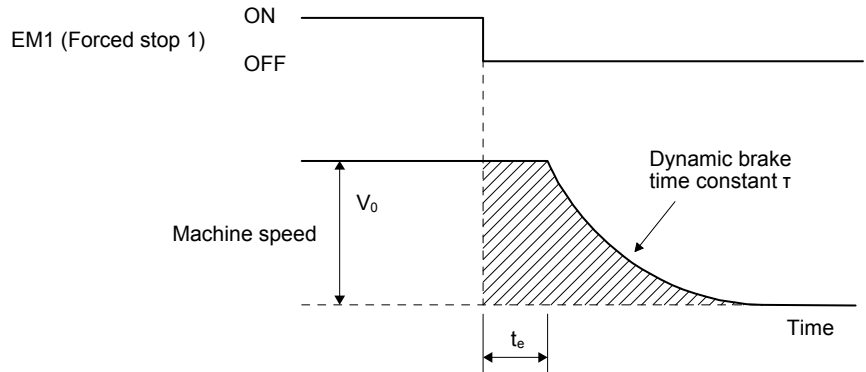

Fig. 10.3 Dynamic brake operation diagram
Fig. 10.3 shows the pattern in which the servo motor comes to a stop when the dynamic brake is operated. Use equation 10.2 to calculate an approximate coasting distance to a stop. The dynamic brake time constant  $\tau$  varies with the servo motor and machine operation speeds. (Refer to (2) in this section.)